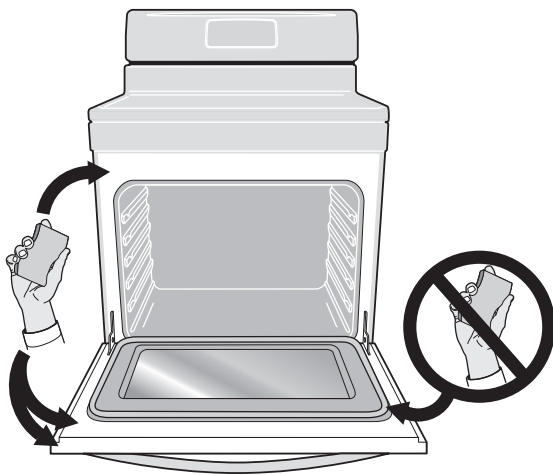

Figure 37: Areas to clean and to avoid
- Do not use oven cleaners or oven protective coatings in or around any part of the oven interior. Clean any soil from the oven frame, the door liner outside the oven door gasket, and the small area at the front center of the oven bottom (See Figure 37). These areas heat sufficiently to burn soil on. Clean using soap and water prior to starting Self Clean.